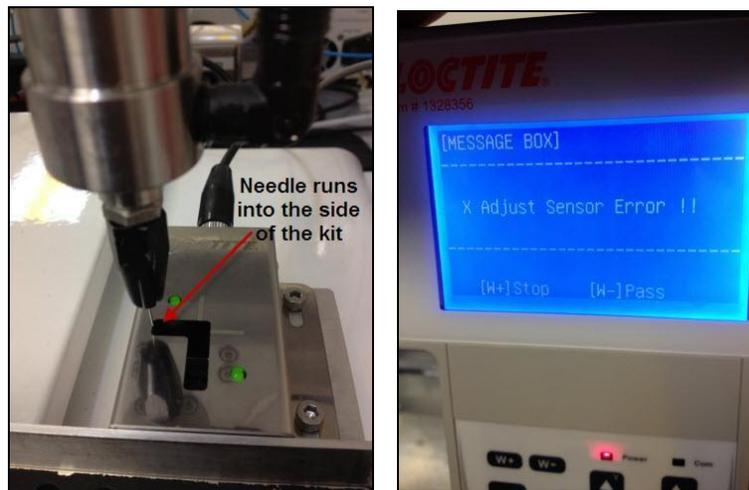

Figure 6 & 7: Needle tip is too high in the Z direction, need to lower so it crosses the sensors.
- 6) If the needle is not far enough down in the Z direction, when the needle starts to autoalign in the X and Y directions, it will not pass through the sensors and therefore run into the side of the calibrator and you'll see X or Y Adjust Sensor Error !!. Hit [W+] Stop, realign the needle farther down on the Z, and start over. See **Figure 6** below.